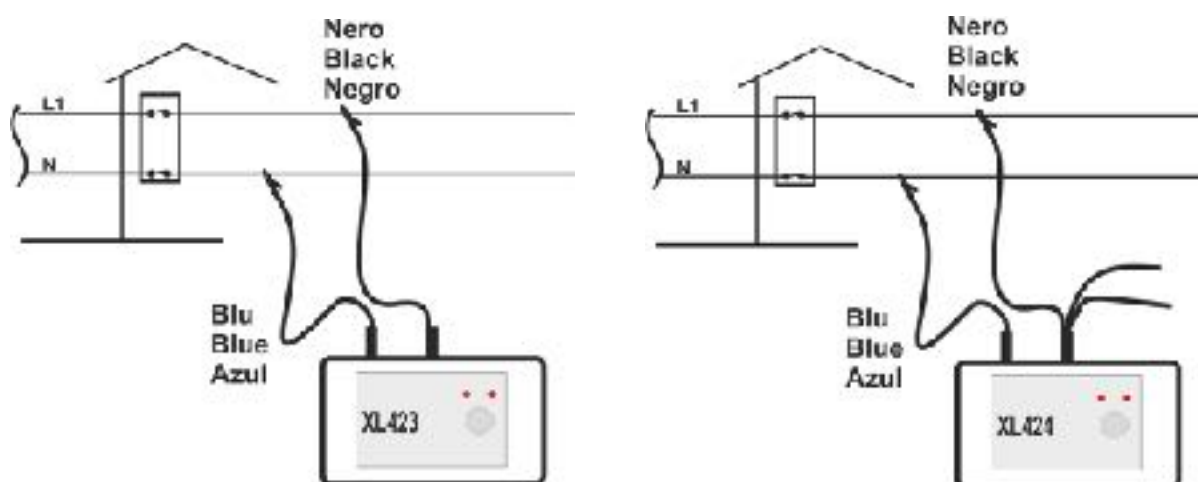

Fig. 2: Instrument's connection in single phase system
3. Connecting alligator clips in the plant as indicated in Fig. 2.